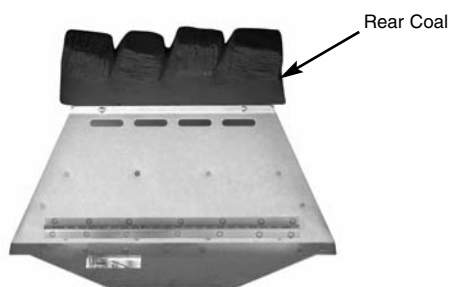

Fig. 82
1. Place the rear coal on the rear coal retainer ledge in a central position (Fig. 82).